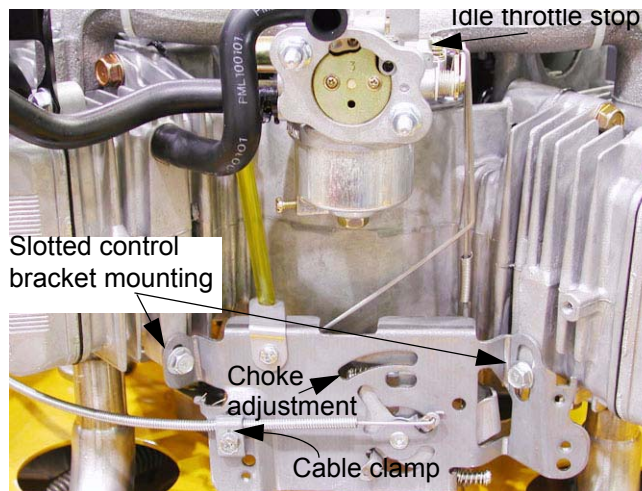

Figure 14.3
- 14.3. If the control bracket is removed for any reason, it must be adjusted on installation. See Figure 14.3.